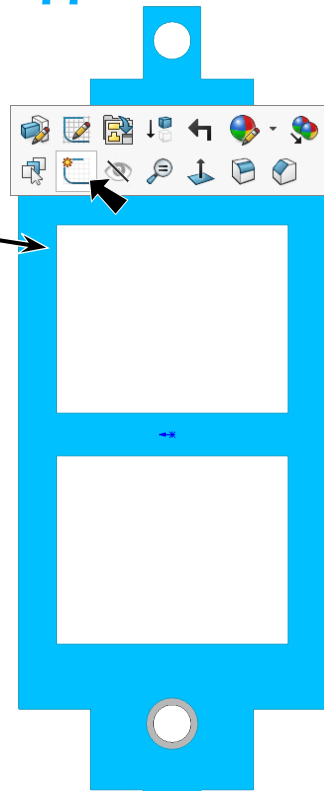

Fig. 34
Step 2. Click the **bottom face** and click **Sketch**  on the context toolbar, **Fig. 34**.